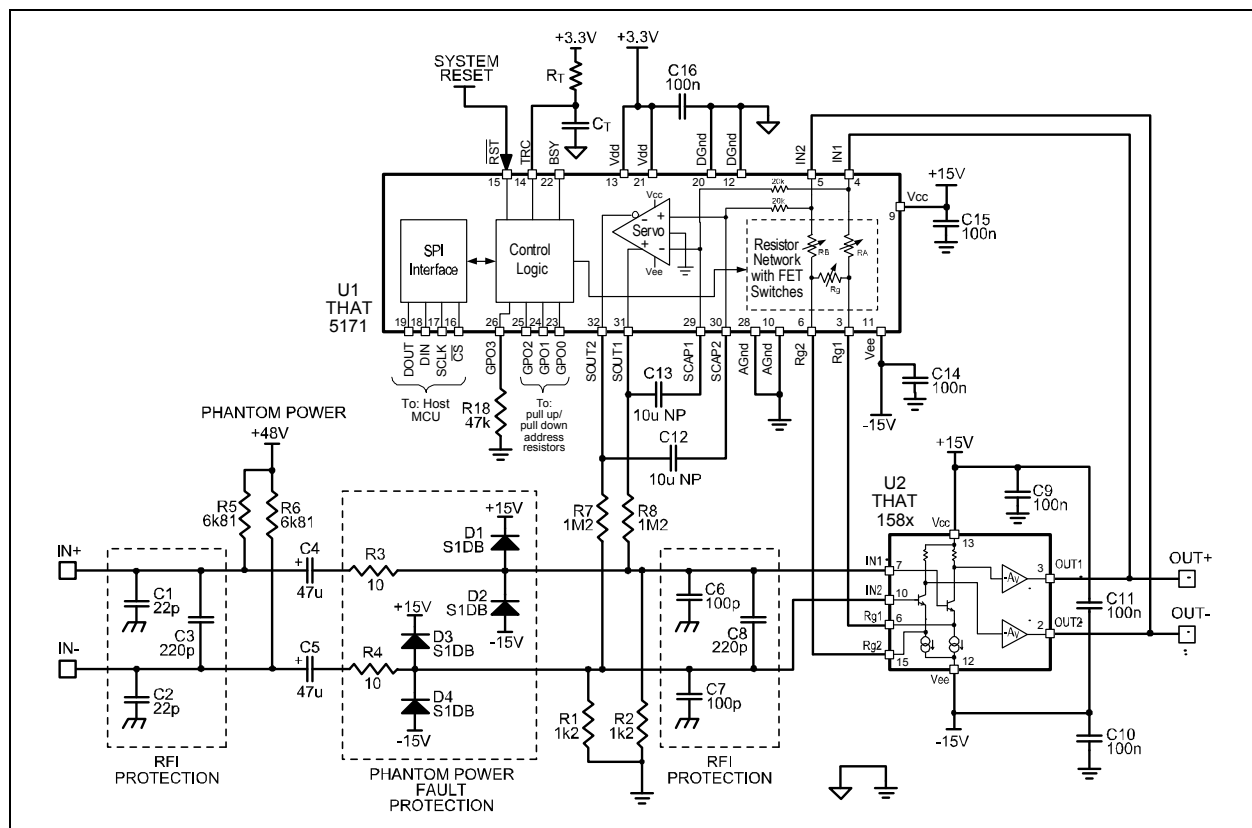
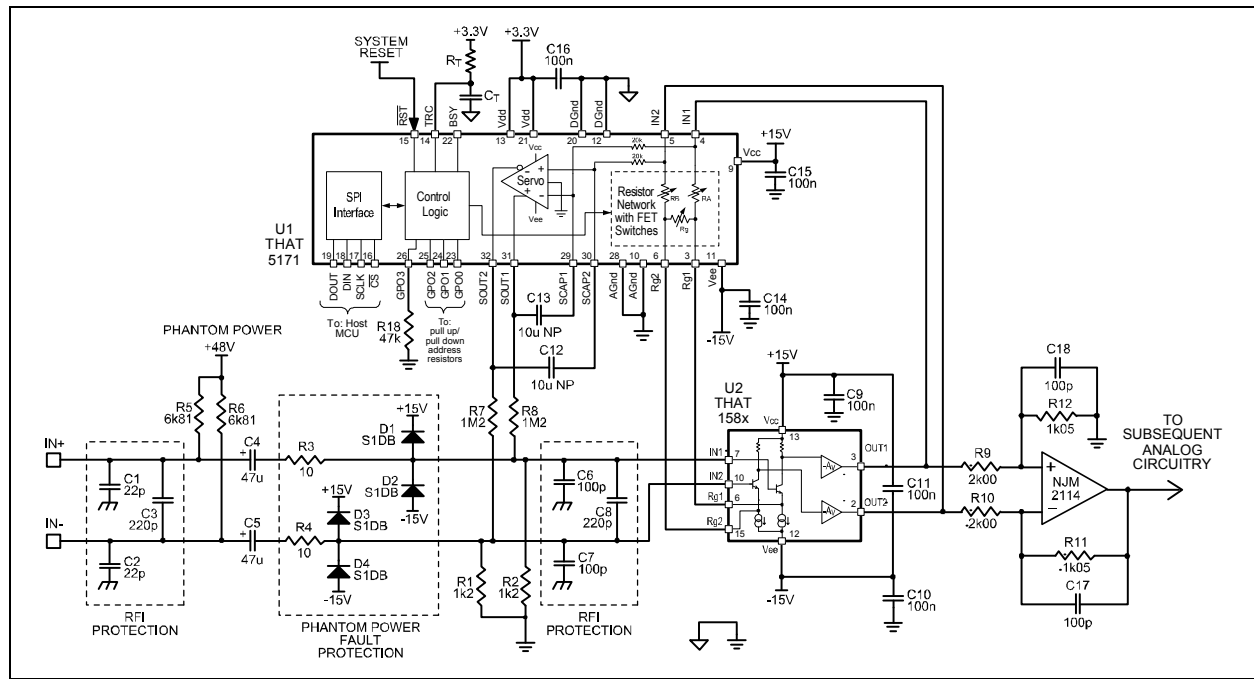

Figure 3. 5171/ 158x basic application circuit.
Figure 4. 5171/158x typical application with single-ended output.
A built-in zero-crossing detector can be used to restrict gain changes to times when the analog signal is very close to zero. The detector monitors the differential signal present between the IN1 and IN2 pins of the 5171. When enabled, it permits gain changes to take place only when the signal is within ±5mV. A timeout (set by external components RT and CT in figures 3~6) ensures that a gain change will always occur at the expiration of the timeout, in case the signal has not gotten within the voltage window by that time.
The combination of the input coupling capacitors (C4 and C5 in Figures 3~6), the bias resistors for the 1580 (R1 and R2 – which form a load for C4 and C5), and the servo, form a 2nd order highpass filter whose characteristics change with the gain setting. The Q of this filter is highest at the highest gain setting. (At low gains, the behavior is governed almost entirely by the input coupling network and bias resistors, since the poles split and the one related to the servo moves very low.) Assuming 1.2kΩ for R1 and R2, and 1.2MΩ for R7 and R8, we can set the highest Q to be about .87 (for approximately Butterworth response) if we choose C12 and C13 to be 1/5 the values of C4 and C5.
The circuit of Figure 3 shows the most basic application of the 5171 and 1580 to form a complete low-noise microphone preamplifier.
The circuit of Figure 3 offers differential gain that varies from 5.6 to 68.6dB. There is one  $\sim 8$ dB step from 5.6dB to 13.6dB. Above 13.6dB, gain may be controlled in 1dB steps to +68.6dB. For single-ended analog outputs, the circuit of Figure 3 can be followed by a differential-to-single-ended converter, as shown in Figure 4. Here, the differential amplifier is configured for -5.6dB gain in order to minimize noise and maximize headroom at the output of the circuit. Including the 5.6dB attenuation in the differential amplifier, the system gain can be set to 0dB, or any gain from +8dB to +63dB in 1dB steps.
With the circuit of Figure 4, the maximum input signal levels remain the same, but the (now single-ended) output levels drop by 5.6dB due to the loss of the differential amplifier. When converting to single-ended signals, take care to select a low-noise opamp, and pay attention to the noise generated by the impedances. The component values shown in Figure 4 will largely preserve the dynamic range of the 1580 and 5171 combination, though they do compromise noise by 1dB at the lowest gain settings.
The circuits of Fig 3 through 6 include RFI protection in two sections. Small capacitors ( $C_1$  and  $C_2$ ) are used from the positive and negative signal inputs to chassis ground, along with a larger capacitor ( $C_3$ ) across the two inputs. These components should be located as close as possible to the input signal connector, and are intended to prevent RF from entering the chassis of the device.
- 2) **ZERO-CROSSING Mode:** Updates are made on the next output signal zero-crossing after a rising edge on the /CS pin. An RC time constant connected to the TRC pin ( $R_T/C_T$  in Figures 3~6) establishes a time-out period in case a zero-crossing does not occur within a desired time window. The zero-crossing time-out function operates as follows: